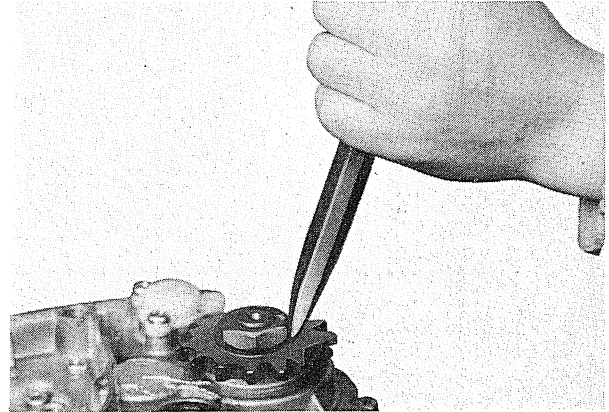

Fig. 3-13-1
- 1) Straighten the bent edge of the lock washer, with a chisel. (Fig. 3-13-1)